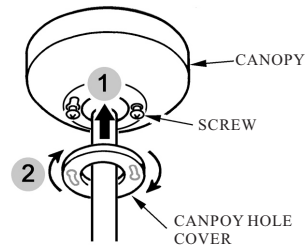

FIG.11
5. Place the canopy hole cover over the screws and twist the cover to tighten. (See fig.11)